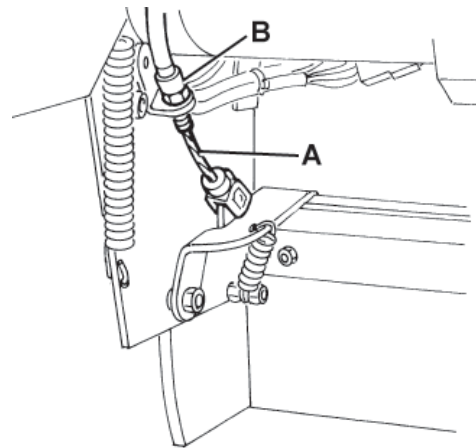

Figure 23
If necessary, adjust the skirt lifting cable (A, Fig. 23) with the adjuster (B) on the left front side of the skirt (for the front skirt control cable replacement, see the Service Manual).